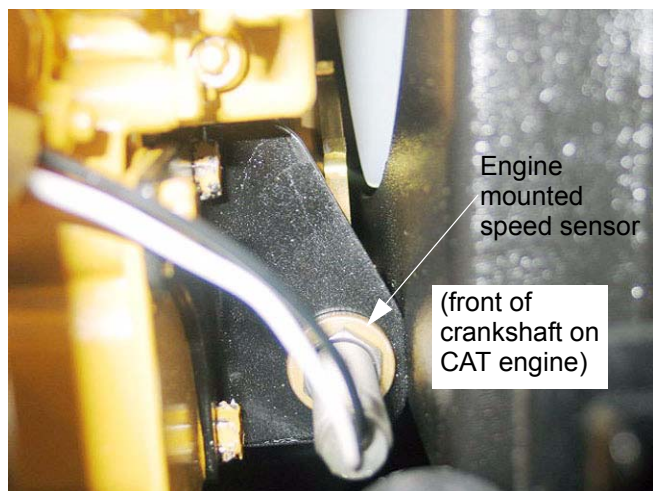

Figure 6.10
- 6.10. Current production uses an engine-mounted speed sensor, or an ignition generated tachometer signal on gasoline engines. See Figure 6.10.